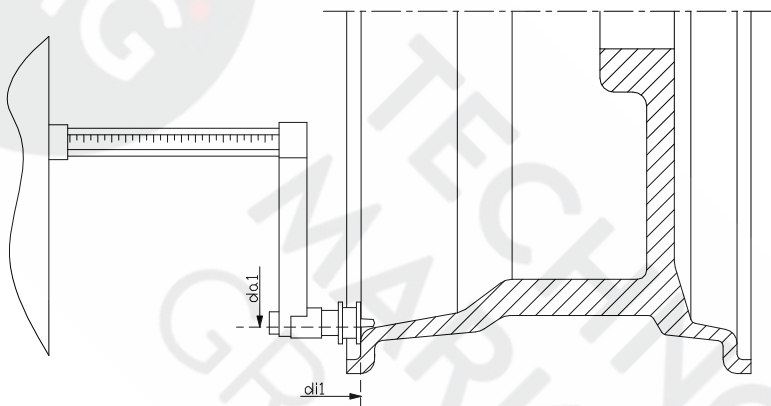
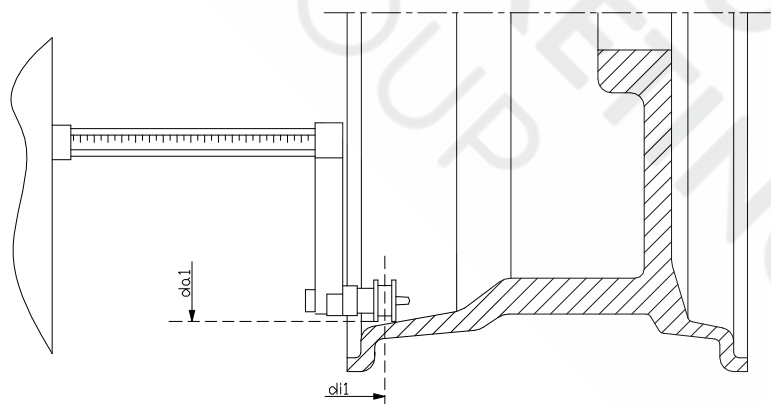

Figure F3.7 - Automatic acquisition of the internal plane distance in the ALS1 Program Type
Figure F3.8 - Automatic acquisition of the internal plane distance in the ALS2 Program Type
2. Extract the Distance/Diameter sensor and place it on the plane chosen as the internal plane. The point of support differs depending on whether the ALS1 or ALS2 program has been enabled. See figures F3.7 and F3.8;
3. Extract the Distance/Diameter sensor and place it on the rim that corresponds to the internal plane chosen to apply the balancing weight. See figure F3.7 for the ALS1 Program Type and figure F3.8 for the ALS2 Program Type;